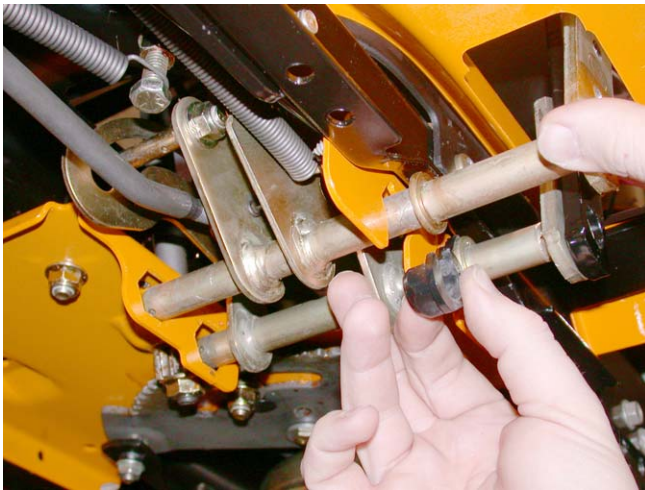

Figure 27.5
- 27.5. Press both shafts as far outward as possible, and pry the worn bushings out of the bracket. See Figure 27.5.